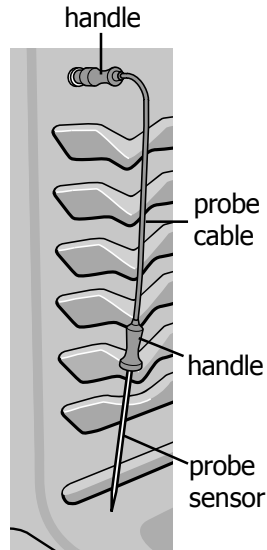

Fig. 1
- When removing the probe from the receptacle or food, always remove using the probe handles (Fig. 1).